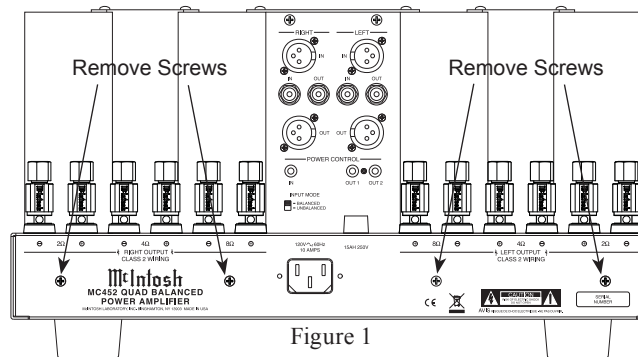

Figure 1
3. Using a suitable tool remove the four screws from the MC452 Rear Panel and temporarily place them in a safe place. Refer to figure 1.